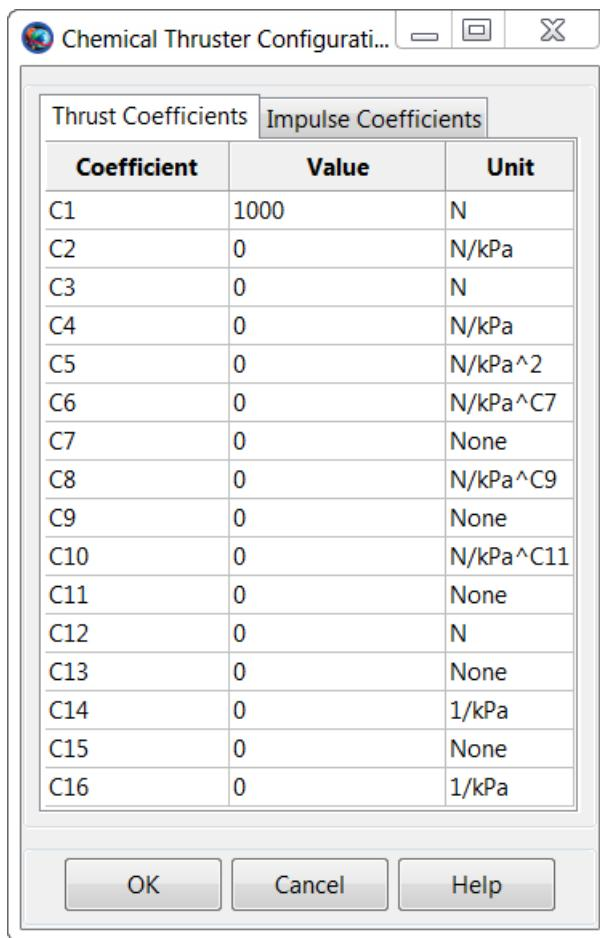

Figure 31. ChemicalThruster1 Thrust Coefficients
2. Click the **Edit Thruster Coef.** button to bring up the **ThrusterCoefficientDialog** box, shown in Figure 31. Replace the default **C1** coefficient value of **10** with **1000**. Click **OK**.